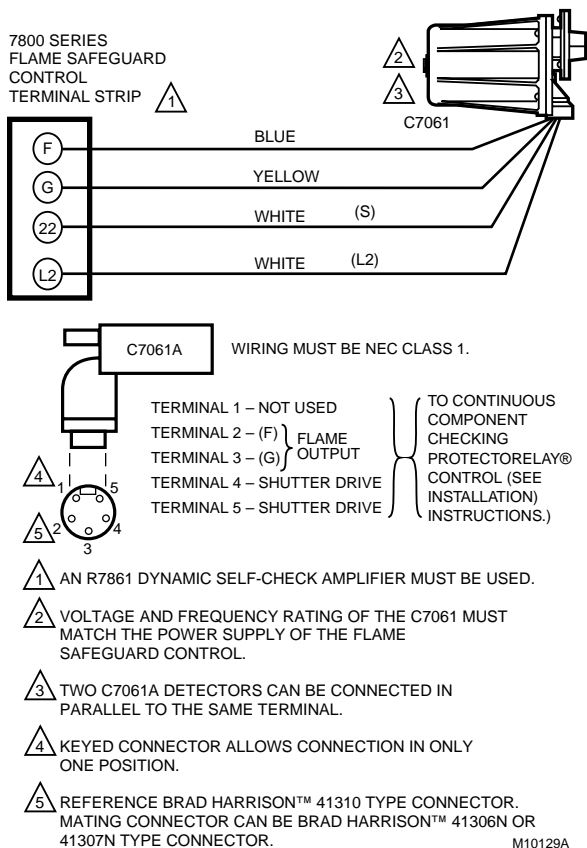

Fig. 8. Wiring diagram for C7061A Detectors with 7800 Series Flame Safeguard controls with shutter drive circuitry.
WIRING (FIG. 8)**CAUTION**
7. Refer to Fig. 8 for wiring connections.